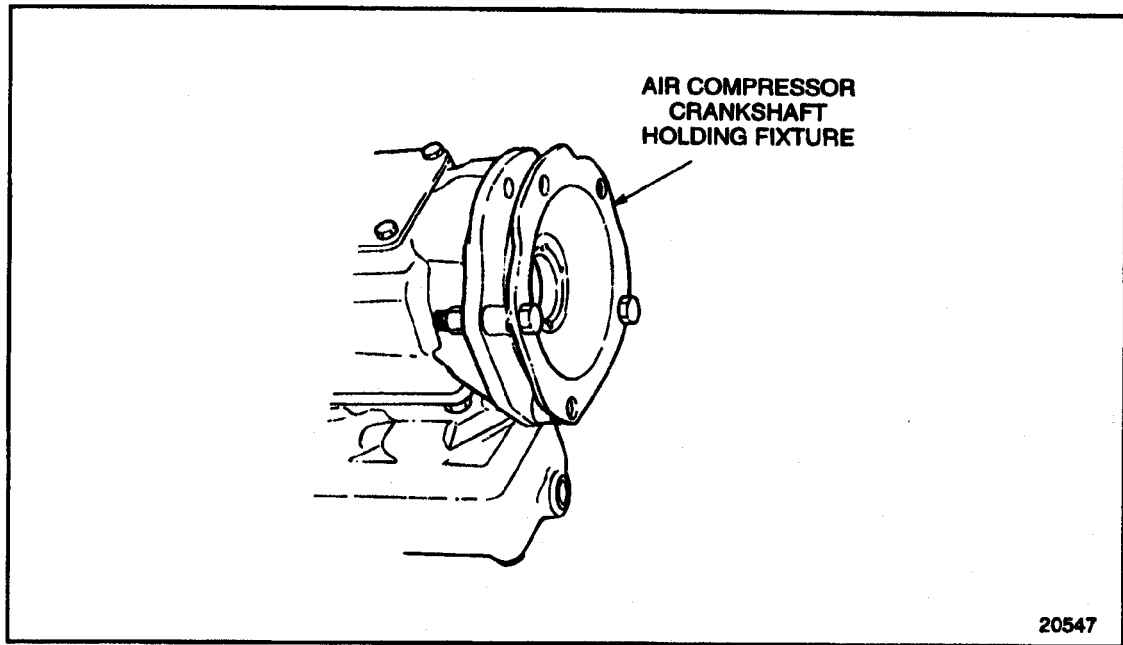

Figure 10-11 Air Compressor Crankshaft Holding Fixture Installation
1. Install the holding fixture to the flange of the air compressor, engaging the coupling with the internal teeth of the drive hub. Install two bolts to secure the fixture to the compressor. See Figure 10-11.
2. Install the drive holding fixture to the flange of the air compressor, engaging the coupling with the internal teeth of the drive hub. Install two bolts to secure the fixture to the compressor. See Figure 10-11.